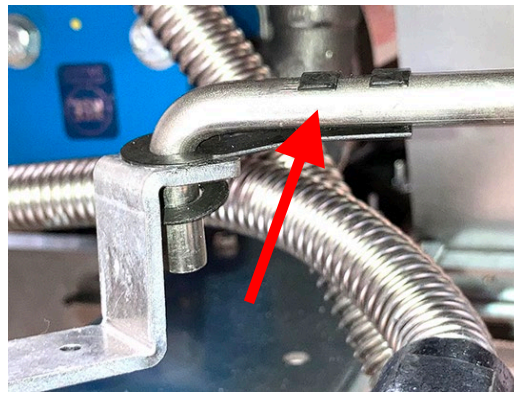

Figure 50
49. Attach the dispose handle assembly 1080686 to the dispose switch valve assembly with the clevis clip (see Figure 50).